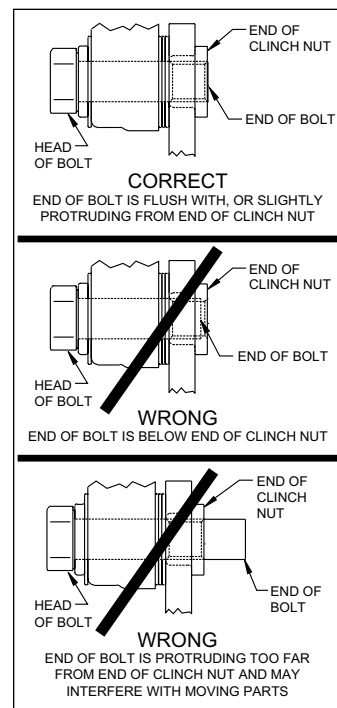

Figure 3. Clinch Nut Engagement Diagram
**CAUTION:** All mounting bolts must fully engage clinch nuts. Be sure to check that all bolts are either flush or protruding through flanged side of clinch nut after shimming, Figure 3.
of the caliper. The rotor should be centered in the caliper, Photo 10. If not, adjust by adding or subtracting shims between the bracket and the caliper. Always use the same amount of shims on each of the two mounting bolts. **NOTE:** *The end of each bolt must be flush with or slightly protruding from the head of the clinch nut, as shown in Figure 3.* If necessary place spare shims between washer (17) and caliper mounting ear to achieve the proper clinch nut engagement. Once the caliper alignment and clinch nut engagement are correct, remove the bolts one at a time, apply red *Loctite® 271* to bolt threads, and torque to 40 ft-lb.